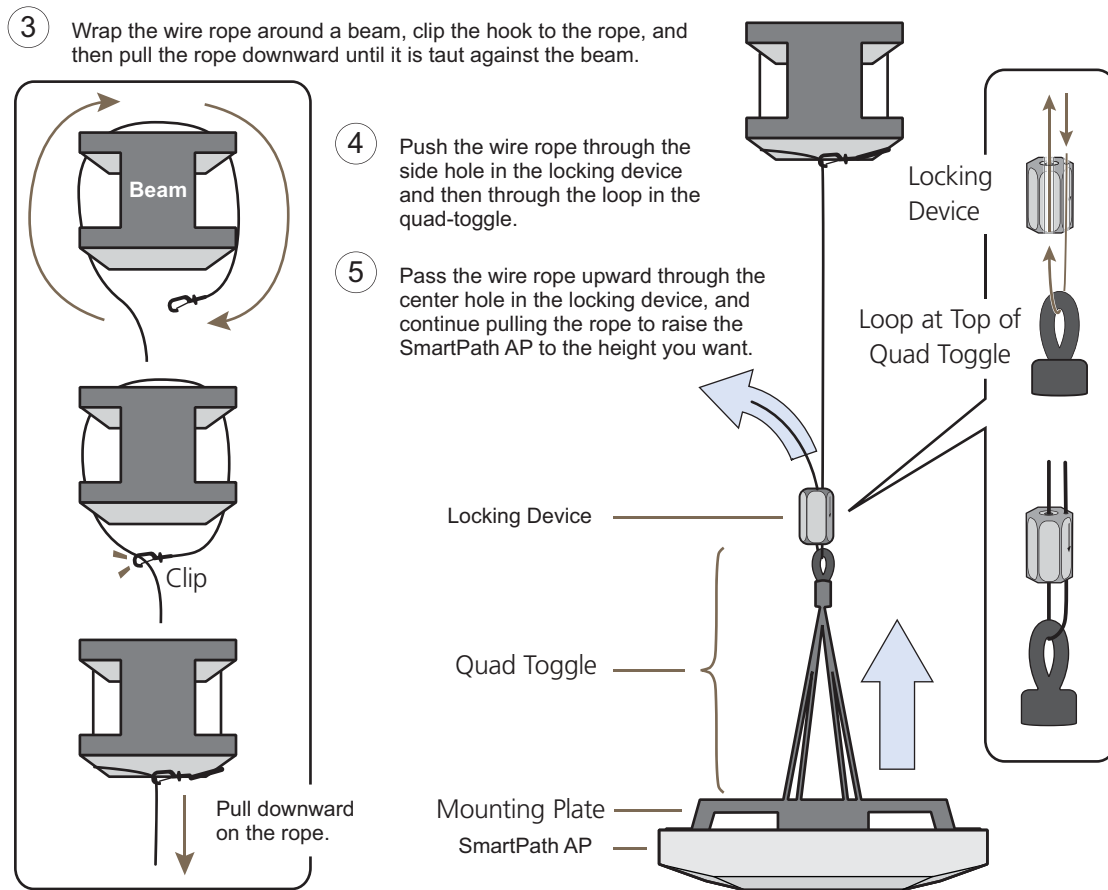

Figure 3-20. Suspending the SmartPath AP.
5. Insert the wire rope back through the center hole in the locking device, and then continue pulling it through the locking device until the SmartPath AP is suspended at the height you want (see Figure 3-20).